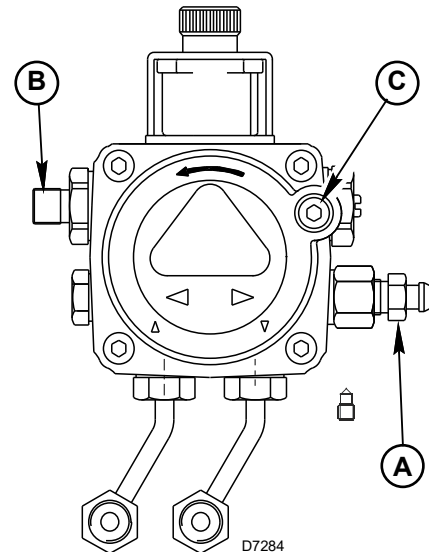

Fig. 17
To protect the pump gears, it is advisable to lubricate the pump prior to purging a lift system. Apply oil through the vacuum port C)(Fig. 17).
- A Loosen the bleeder valve A)(Fig. 17) until oil flows out. Tighten the bleeder valve securely and start burner.
- Loosen the bleeder valve (A).